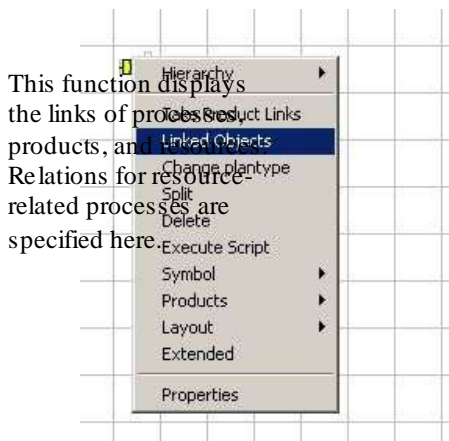

Figure 148: Display Links of a Resource
- 1) To start the menu item Linked Objects, select the resource and then click with the right mouse button. *Please refer to the Figure 148.*